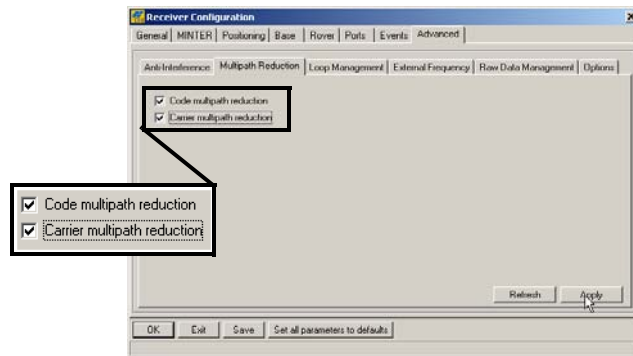

Figure 3-3. Configure Multipath
3. Click the *Advanced* tab and then the *Multipath* tab, set the following parameters, then click **Apply** (Figure 3-3):